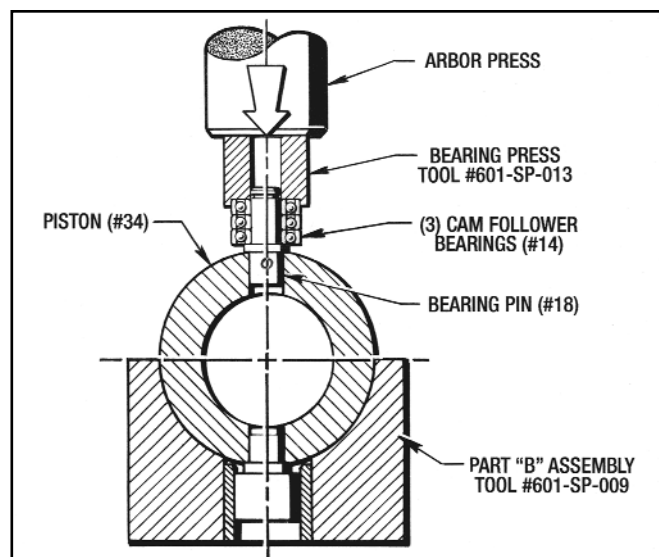

Figure 7.8 - Installing Cam Follower Bearings (#14)
4. Lightly coat the remaining O.D. of the Bearing Pin (#18) and the I.D. of the (3) Bearings (#14) with Green Loctite #609.
5. Press the (3) Bearings (#14), one at a time, onto the Bearing Pin (#18) with an Arbor Press and Bearing Installation Tool #601-SP-013 as shown in Figure 7.8.